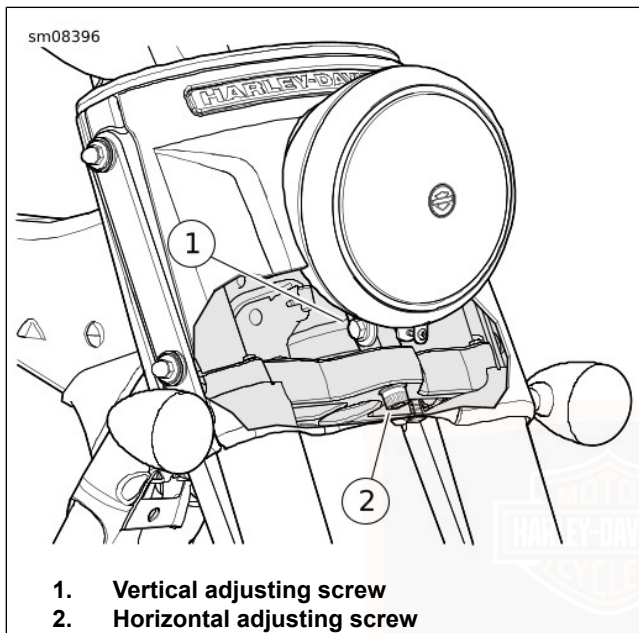

Figure 78. Headlamp Adjustment: FLRT
2. See Figure 78. Loosen horizontal adjustment screw (2). Tilt headlamp left or right to direct light beam straight ahead.
3. Tighten screw (2) to: